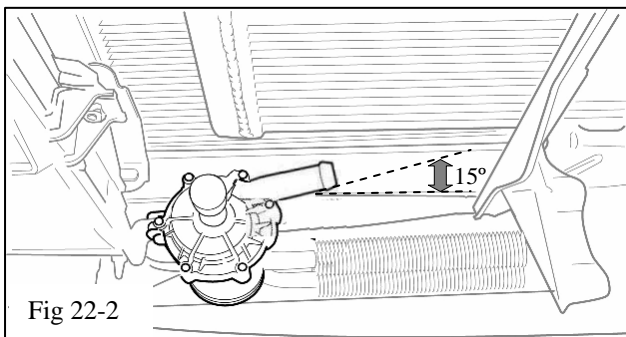

Fig 22-2
- (c) Lower the pump/mounting bracket assembly and install it by sliding the slots over the M8 & M6 bolts. Start with the passenger side slot and then lower the driver side slot. The mount goes back against the lower radiator cross beam behind the brace. When in place, it will look as shown (Fig 22-2). Tighten all the fasteners for the radiator support brace and the LTR pump mounting bracket.